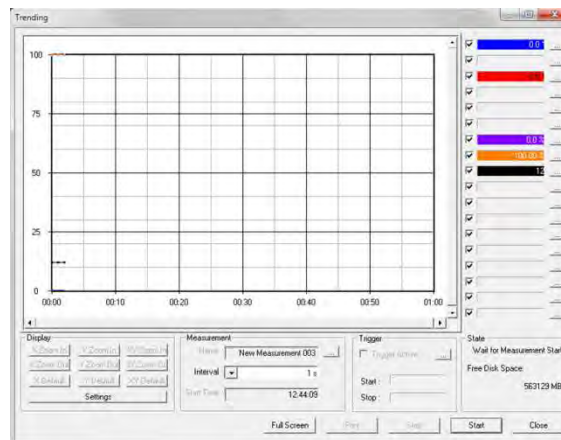

Figure 9-7.1: The ACS450 Trending Screen
2. After the file name is typed in, click on “Open”. Click on “Yes” when the window appears asking if you would like to create the file. The trending screen should now appear and will look similar to Figure 9-7.1 below.